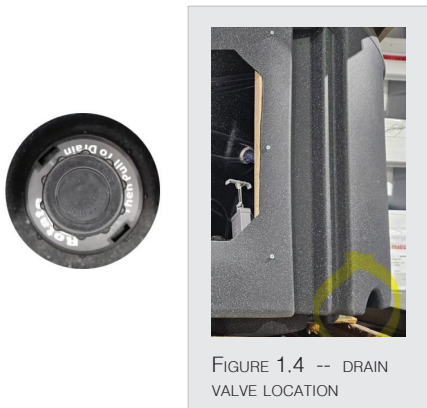

FIGURE 1.4 -- DRAIN
You should drain and refill your spa every one (1) to three (3) months depending on your usage. You should also replace the filter cartridge and wipe down the spa periodically. Consult Cloud 9 Spas for recommendations. The drain valve is located near the bottom corner of your spa (see fig. 1.4).